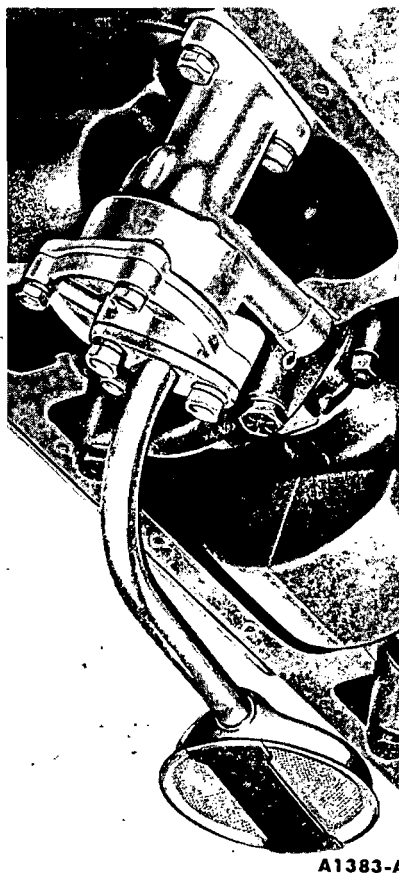

FIG. 52—170 Six Oil Pump Inlet Tube Installed
1. Clean and install the oil pump inlet tube and screen assembly (Fig. 52 or 53).
3. Position the oil pan front seal on the cylinder front cover (Fig. 52 or 53). **Be sure the tabs on the seal are over the oil pan gasket.**